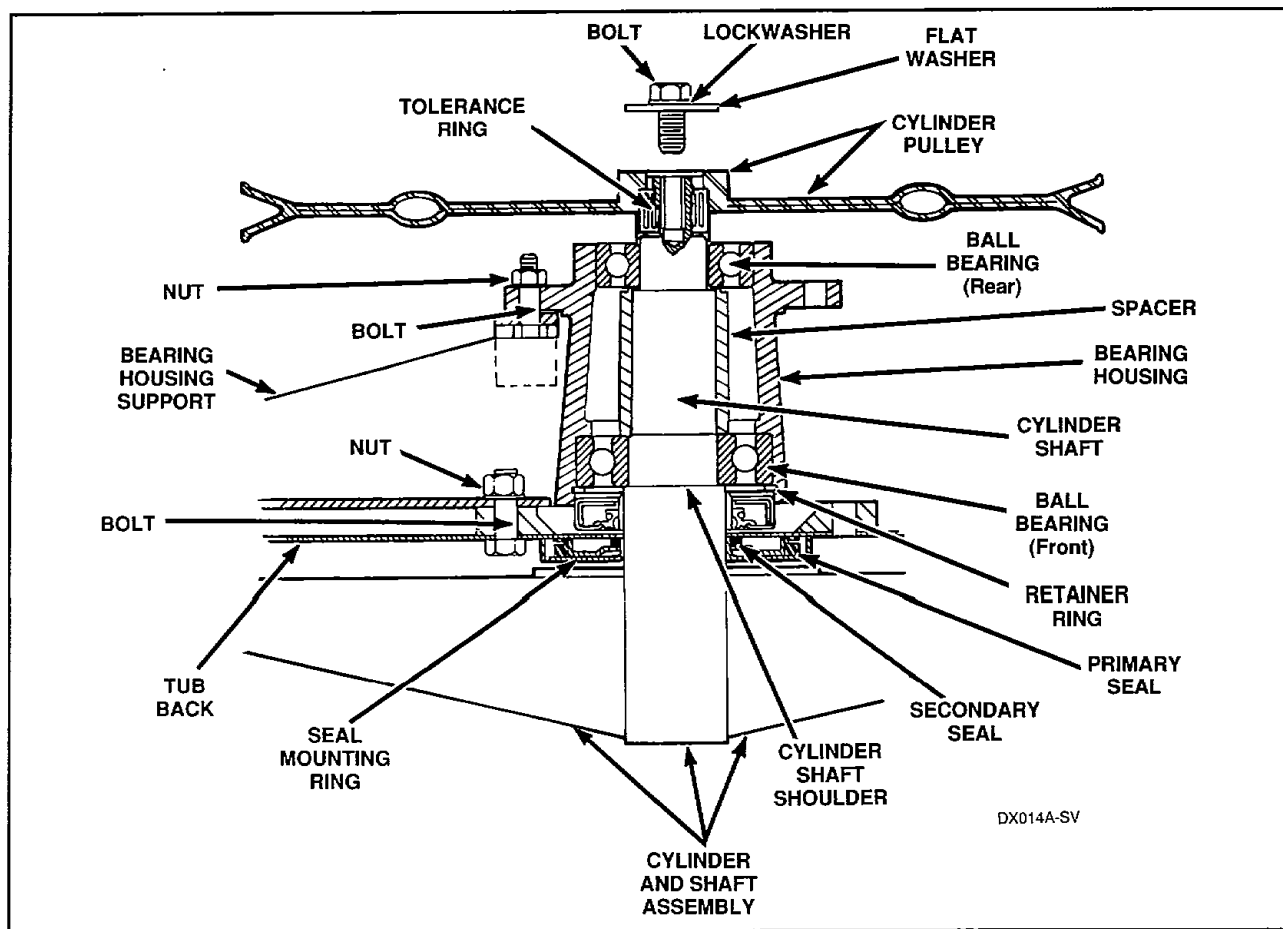

Figure 23
- y. Use a gear puller and remove bearing housing, with tub back attached, off cylinder shaft, *Figure 23*.
- b. Remove attaching hardware holding bearing housing supports and tub back to bearing housing, *Figure 23*.
- a. Reattach the tub back and bearing housing supports to the bearing housing and torque the mounting bolts to 75 foot pounds, *Figure 23*.
- b. Reattach the bearing housing supports to the rear flange of the bearing housing and torque the six mounting bolts to 35 foot pounds, *Figure 23*.
- e. Carefully place the bearing housing and tub back on the cylinder shaft, *Figure 23*.
NOTE: Press against the inner and outer race of the rear bearing until the front bearing bottoms against the shoulder on the cylinder shaft, *Figure 23*.
- f. Place tolerance ring into position and start pulley onto cylinder shaft, *Figure 23*.
- g. Press pulley onto shaft until the pulley hub contacts the inner race of the rear bearing, *Figure 23*.
- h. Install the bolt, lockwasher and flat washer onto end of cylinder shaft, *Figure 23*, and torque bolt to 45 foot pounds.